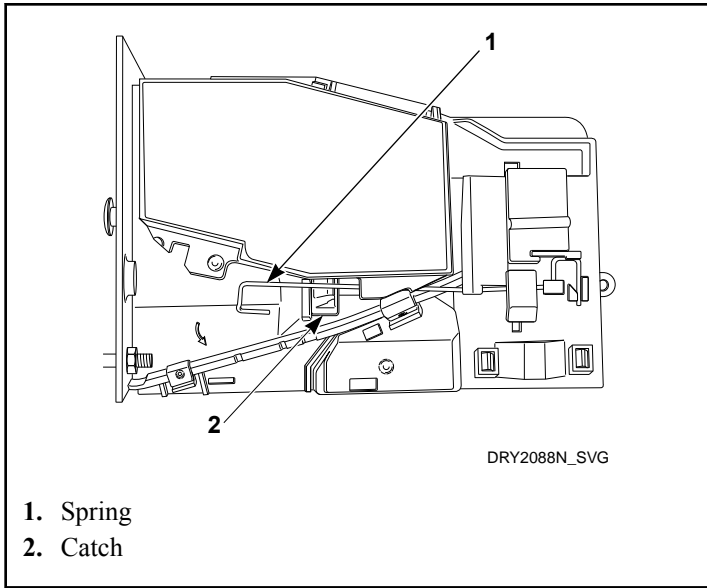

Figure 29
Refer to *Figure 29*.
- a. Move spring downward until cover catch is free. Refer to *Figure 29*.